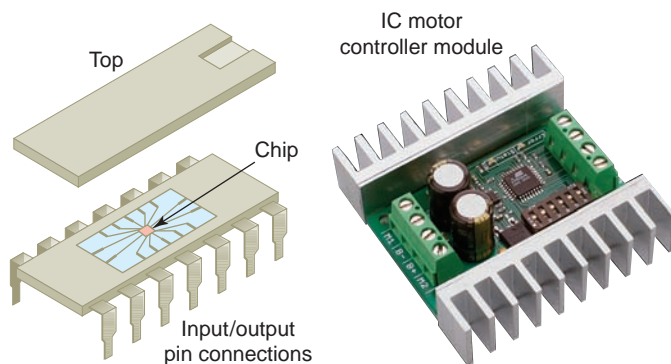

Figure 9-37 Integrated circuit (IC).
An integrated circuit (IC), sometimes called a chip, is a semiconductor wafer on which thousands or millions of tiny resistors, capacitors, and transistors are fabricated. IC chips provide a complete circuit function in one small semiconductor package with input and output pin connections, as illustrated in Figure 9-37. Most integrated circuits provide the same functionality as “discrete” semiconductor circuits at higher levels of reliability and at a fraction of the cost. Usually, discrete-component circuit construction is favored only when voltage and power dissipation levels are too high for integrated circuits to handle.